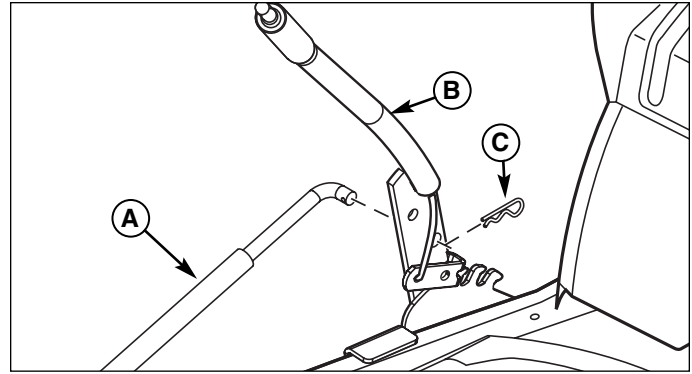

Figure 9. Install Lift Rod
3. Slide lift rod (A, Figure 9) into the bottom hole in the lift lever assembly (B). Secure with hair pin (C). Install front attachment & hitch as outlined in Operator's Manual or Installation Instructions.